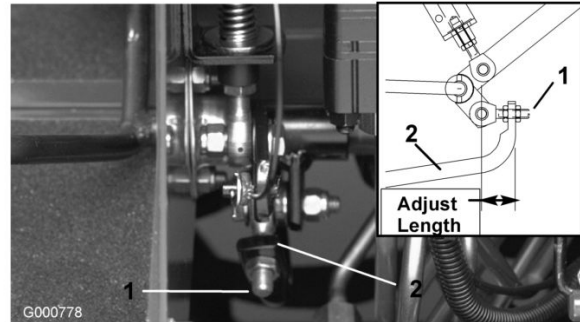

Figure 71
4. Adjust jam nuts on pump rod end to move pump control tube forward to eliminate forward creep or rearward to eliminate rearward creep (Figure 71).